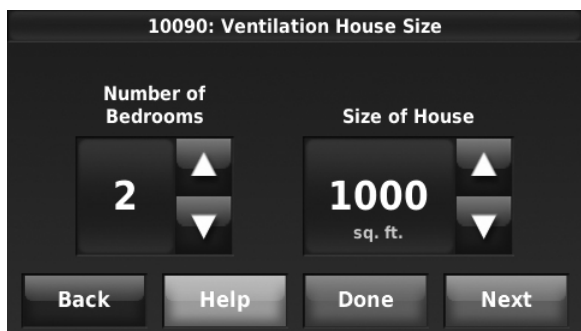

Fig. 148.
5. If ASHRAE was selected for ISU 10050, select the Number of Bedrooms and Size of House. See Fig. 148.